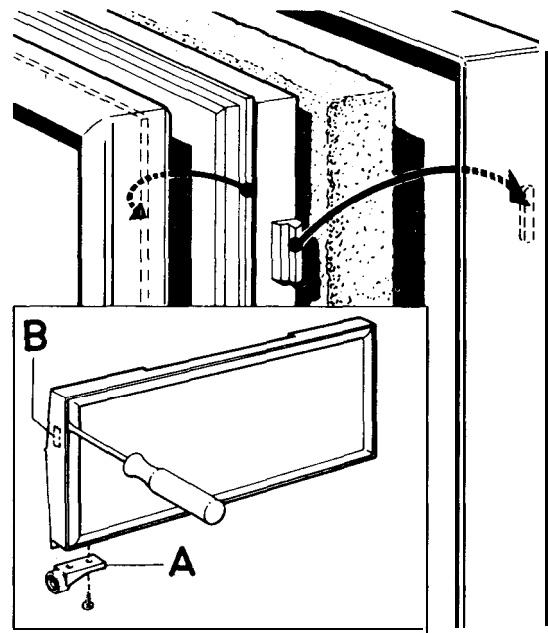

Fig. 13
2. Unscrew the hinge plates (A fig. 13).
CAUTION: It is of great importance that the screw driver is applied in front of one of the plastic tongues (B fig. 13) which hold the inner panel and the shutter front together.